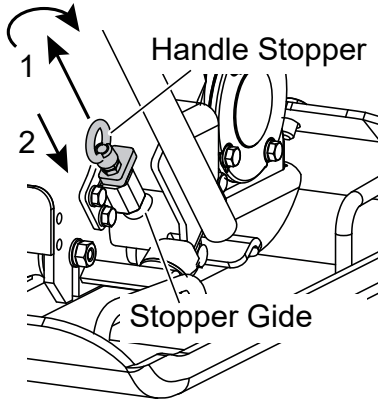

Figure 9. Handle Stopper
1. Pull up the handle stopper, then turn it to the right (Figure 9).
2. Insert the handle stopper to the stopper guide to secure handle in place (Figure 9).